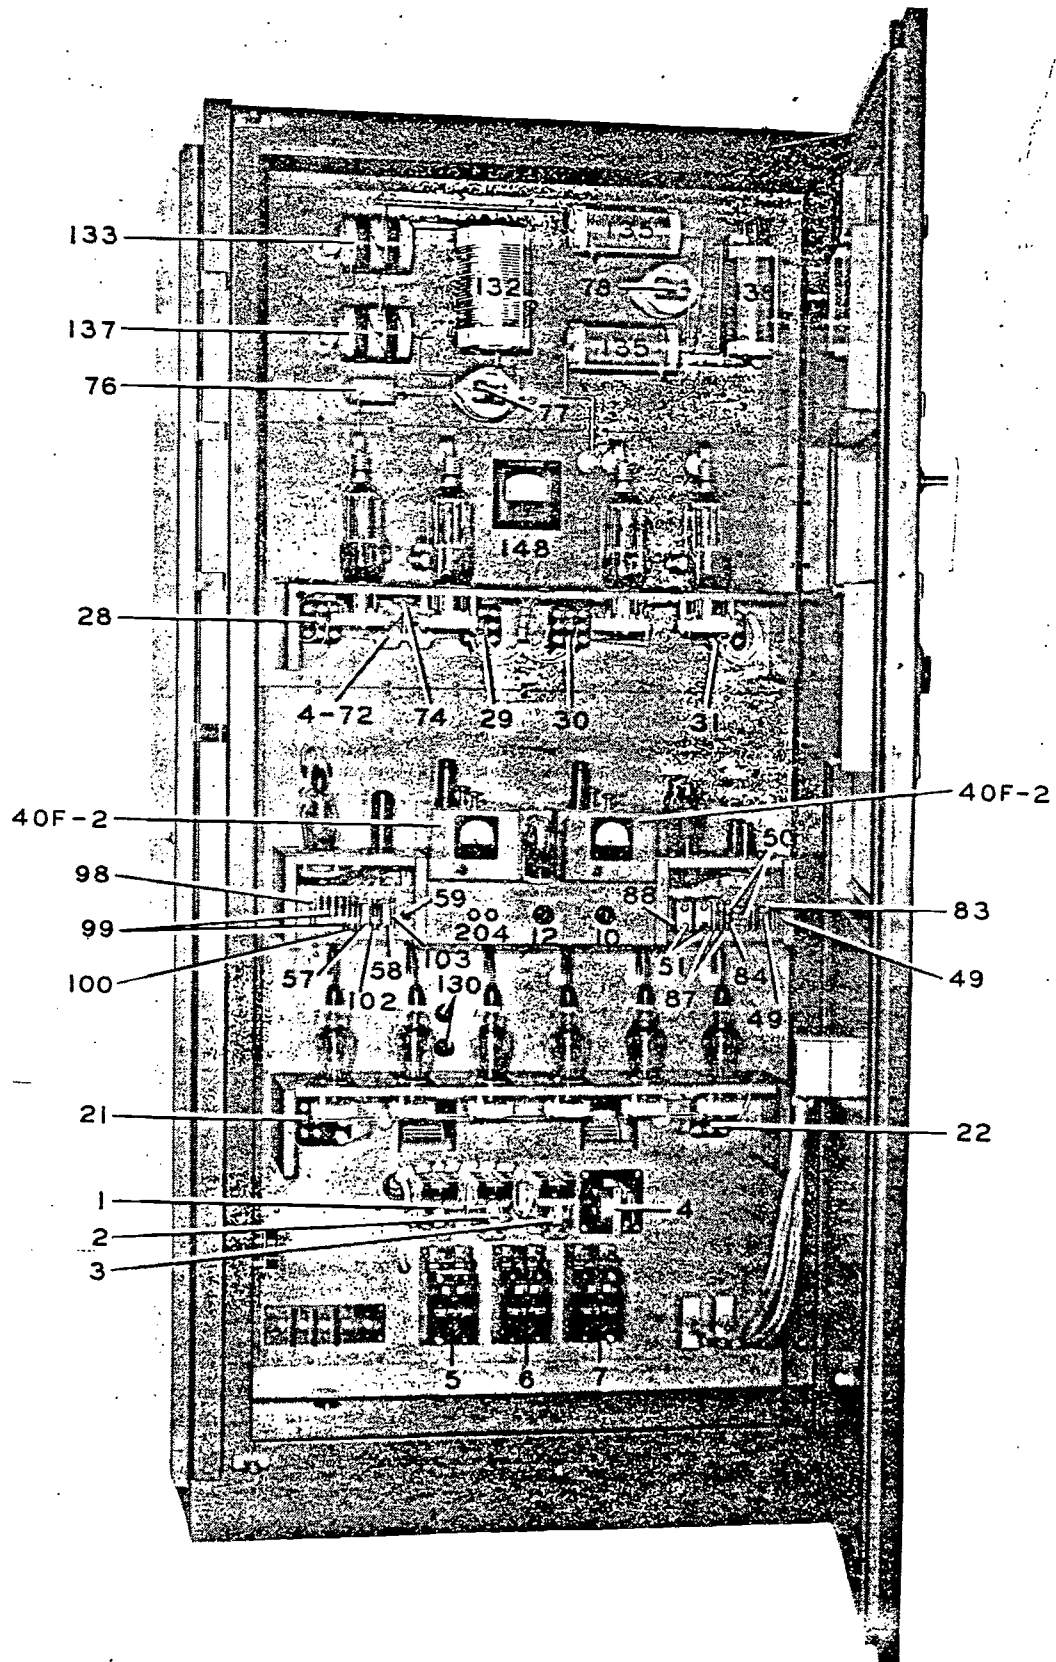

Figure 3-11. 300G Transmitter — Front Open View
(5) Press the Filament Power Stop button.
(6) Close the Low Voltage Supply circuit breaker, Item 7.
(7) Press the Filament Power Start button. When approximately 30 seconds have elapsed the time delay relay, Item 4, should operate. If the time necessary for the operation of this relay is not within 10% of the 30 second limit the time of operation should be adjusted. The relay, Item 4, is located on the lower front panel of the 401W Unit. (Refer to the photograph, figure 3-11, for exact location of the relay.) When operated the normally open contacts of relay, Item 4, complete the circuit necessary for the operation of the low voltage relay, Item 3. The low voltage transformer, Item 24, should now be energized.
(8) Close the High Voltage Supply Circuit Breaker, Item 6.
(9) Close the cabinet doors. Press the Plate Power Start button. The high voltage plate relay, Item 2, will operate and be held in the operated position through the door switches, the Plate Power Stop switch, the Filament Power Stop switch and the circuit breaker, Item 5. The high voltage plate transformer, Item 22, should now be energized.
Item 59, until the test meter indicates approximately 5 ma of grid current. Refer to figure 3-11.
6. Throw the low voltage supply circuit breaker to the OFF position. Refer to figure 3-11.